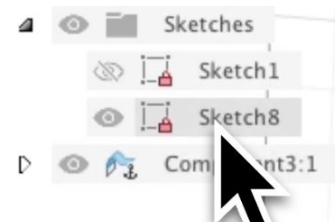

Figure 1.5
4. Finish the sketch, and now you'll see the new sketch appears in the browser (see Figure 1.5). Right-click it in the browser, and choose **Export DXF**.